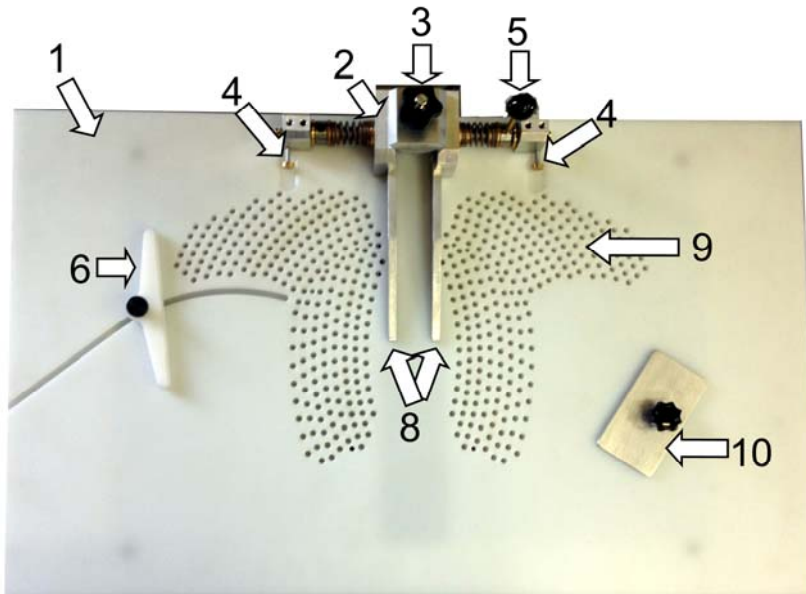

Figure 1
2. Adjust the space between the tines to fit the spine by turning the Adjustment Knob (#3 in figure 1).
3. Place the front & back cover binder-board to the left & right of the spine. You may have to adjust the two screws – referred to as the Edge Turn Adjustment, #4 in Figure 1) so that about $\frac{3}{4}$ " (1.9 cm) of the cover extends past the binder board.